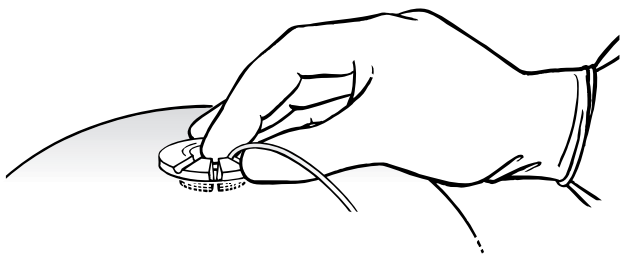

Figure 19. Gently press the lead into the burr hole ring.
2. Gently press the lead into one of the precut grooves on the inner side of the burr hole ring, ensuring that the lead exits the burr hole ring on the side which the neurostimulator will be implanted (Figure 19).